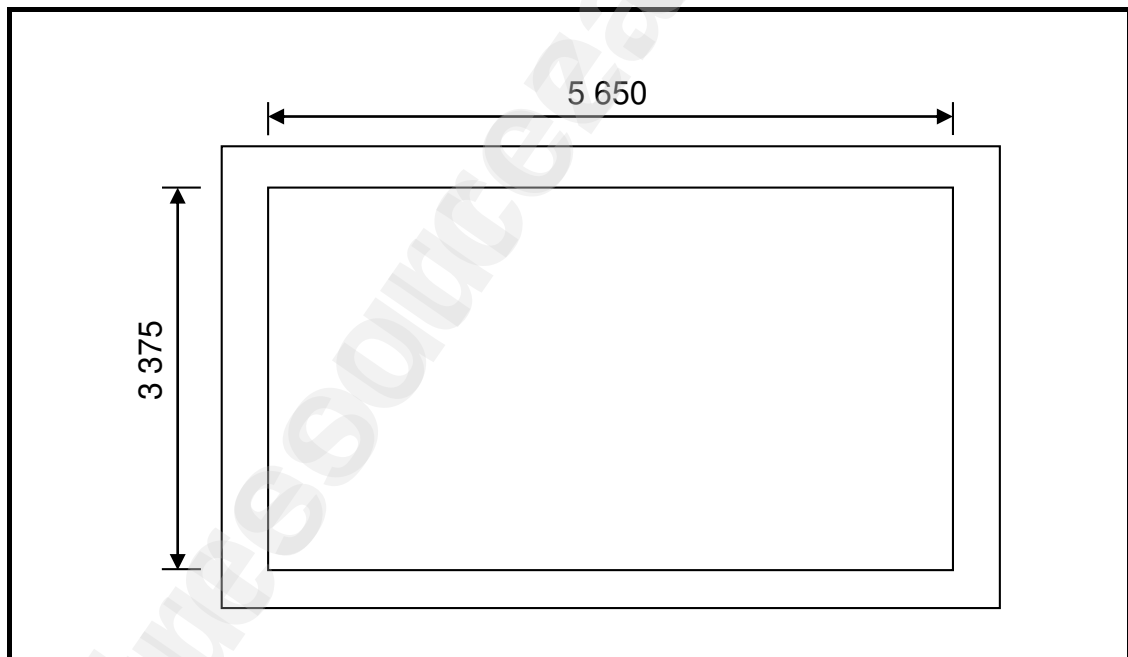

FIGURE 6.9
6.9 FIGURE 6.9 shows the inside measurements of the foundation strips for a storeroom.